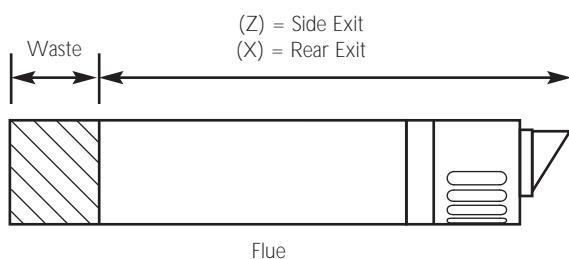

Fig. 27
i.e. (X) = wall thickness + 270
3. Take the flue and mark off (X) from the terminal end as indicated in the diagram (Fig. 27).
5. Take the flue and mark off (Z) from the terminal end as indicated (Fig. 27).